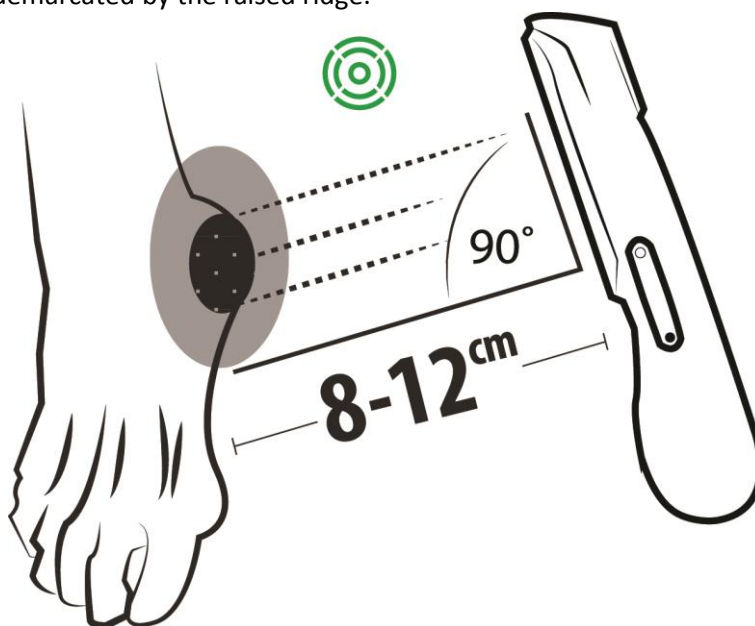

Figure 8: Overview of optimal distance and angling of the device relative to the wound
Green Light	The optimal distance (8-12 cm) between MolecuLight i:X and the wound being imaged has been reached. See Figure 8.
- Hold MolecuLight *i:X* such that the plane of the wound is parallel to the plane of MolecuLight *i:X*. See Figure 8.
**Caution** Angling the device incorrectly may result in poor image quality. The Illumination Zone on the device should point directly at wound and be held at the recommended distance. Failure to do so may result in poor image quality. Refer to Figure 8.